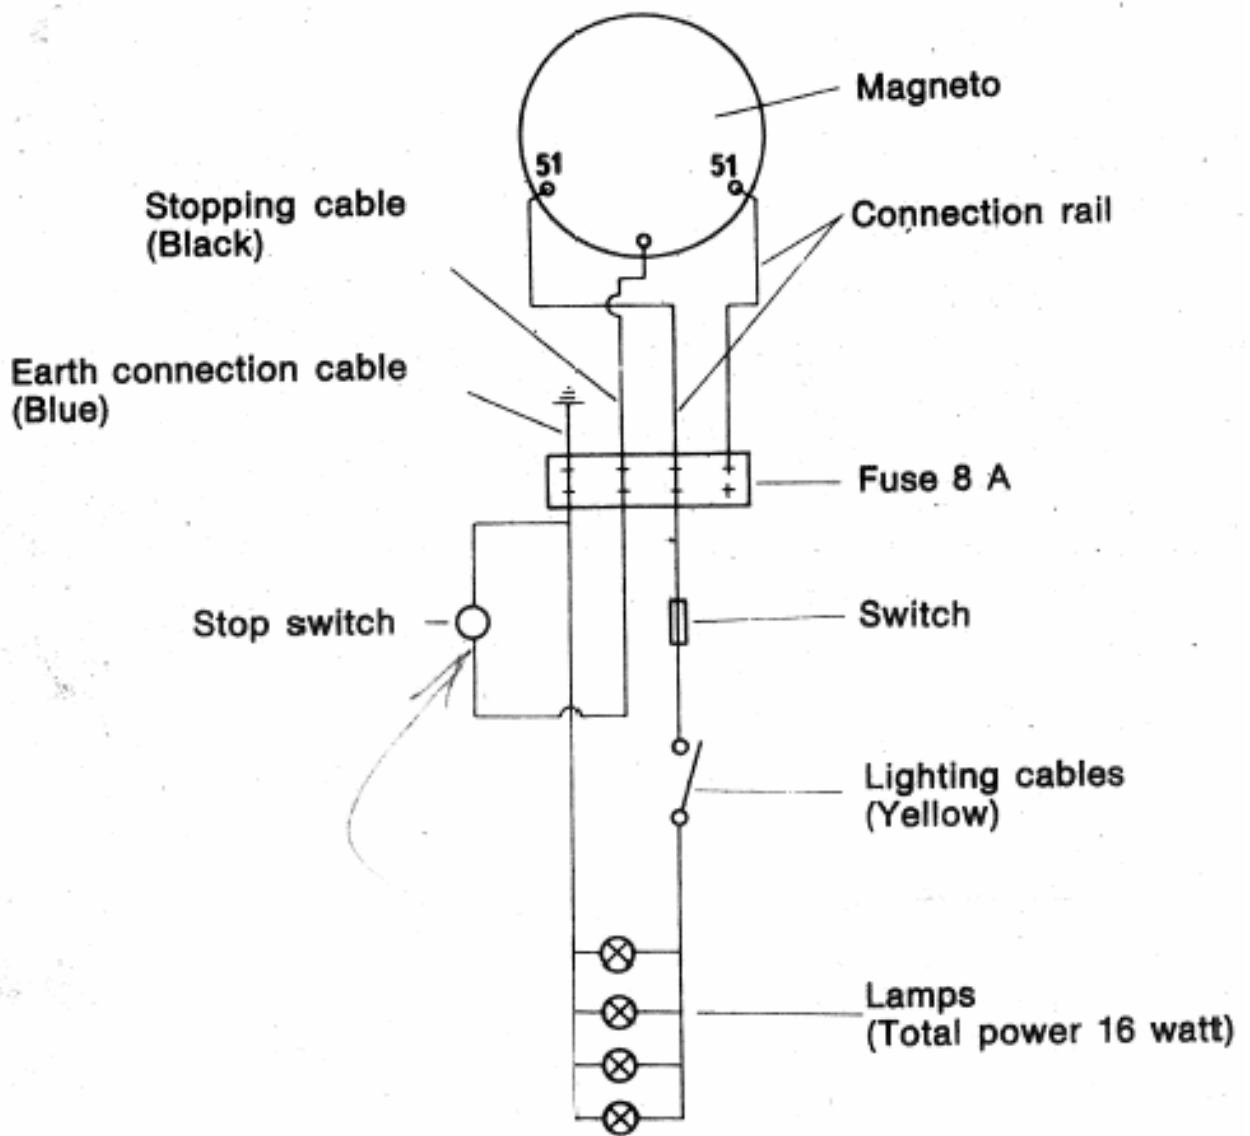

Fig. 7
- c. The starter battery must be firmly installed and must have easy access and adequate ventilation. Electrical components and cables must be mounted in such a way that vibration and dampness cannot cause any breakdowns. Connections of electrical components are shown in figs 7 and 8.
Ignition is supplied by a flywheel magneto, which also incorporates a 6 volt lighting supply, if required. Wiring diagram showing this system is shown in fig. 7. The total power absorbed must not exceed 16 watt 6 volt.